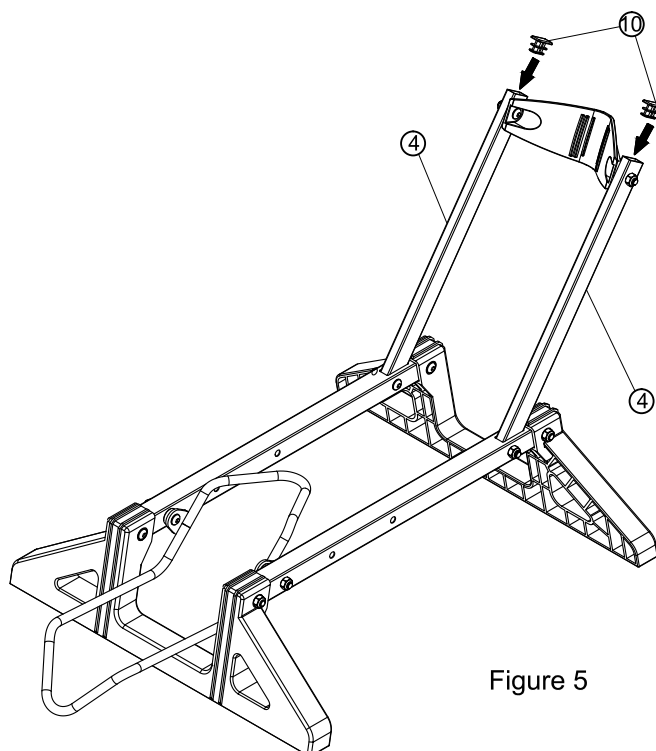

Figure 5
Insert the tube plugs⑩ into the tube openings above the uprights④. (See Figure 5)